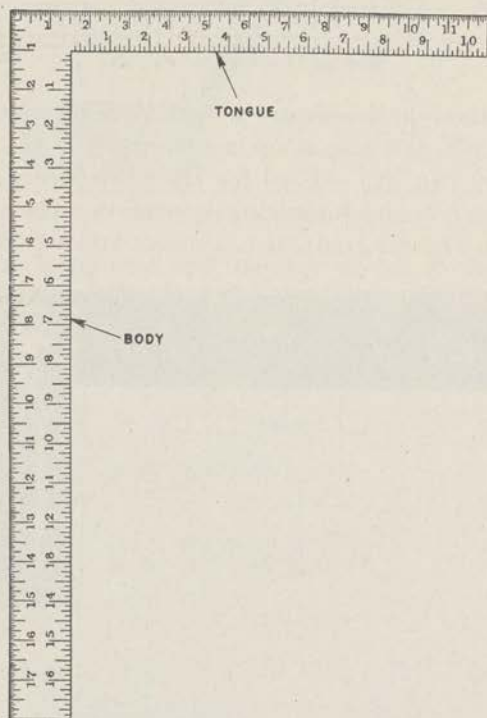

FIGURE 14.—Carpenter's steel square.
e. Carpenter's steel square (fig. 14).—Used for larger work. The longer and wider part is called the body, or blade, and the shorter and narrower part is called the tongue.